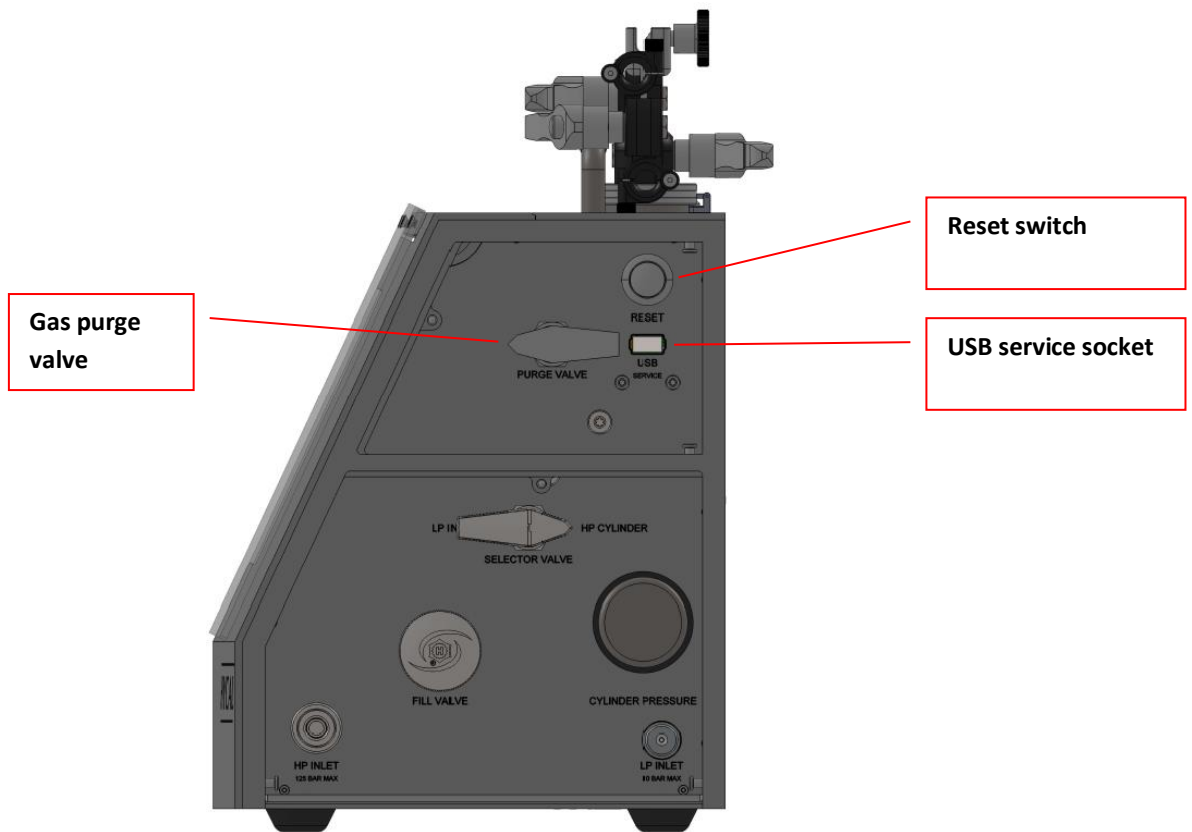

Figure 5: Service door opened
The gas service panel may be opened using the key providing access to the following (Figure 5):
2. Open the purge valve (Figure 5)